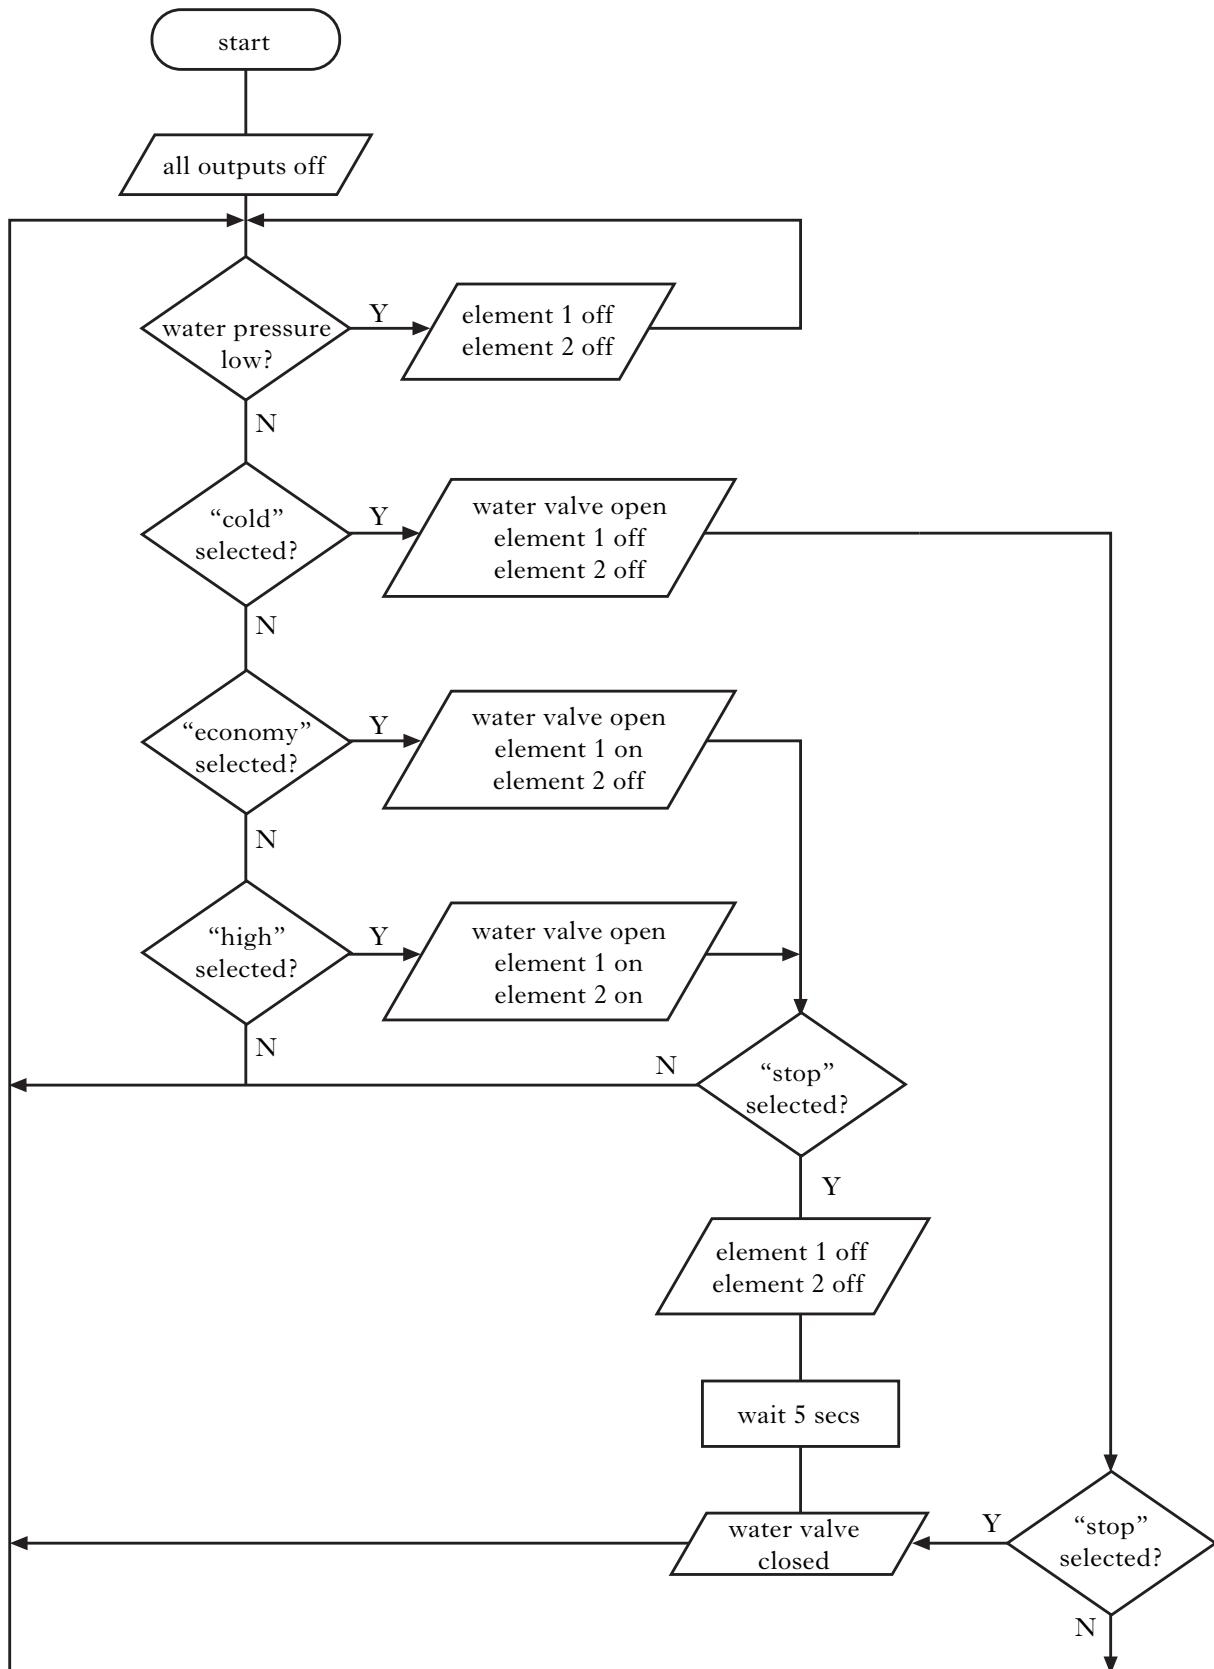

Figure Q10(a)
- 10.** An electric shower unit has a microcontroller-based control system. The user controls the operation of the shower using four switches to select “cold”, “economy”, “high” or “stop” settings. The flowchart for the control of the shower is shown in Figure Q10(a).